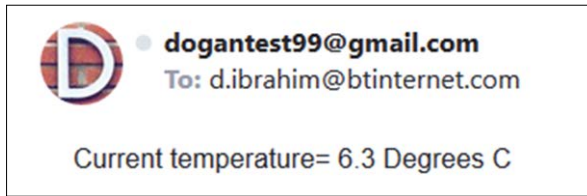

Figure 4.51 Received email
- Click the **inject** node button. The current temperature will be sent to the email address you specified. Figure 4.51 shows the mail sent to the author's email address.